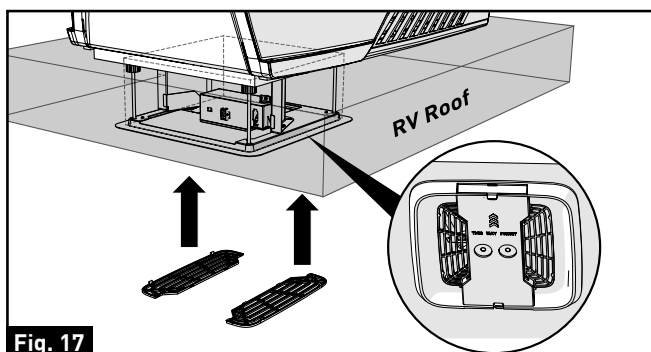

Fig. 17
19. Align the filter tabs with mating notches and push to snap the filters into the ADB shroud. (Fig. 17)